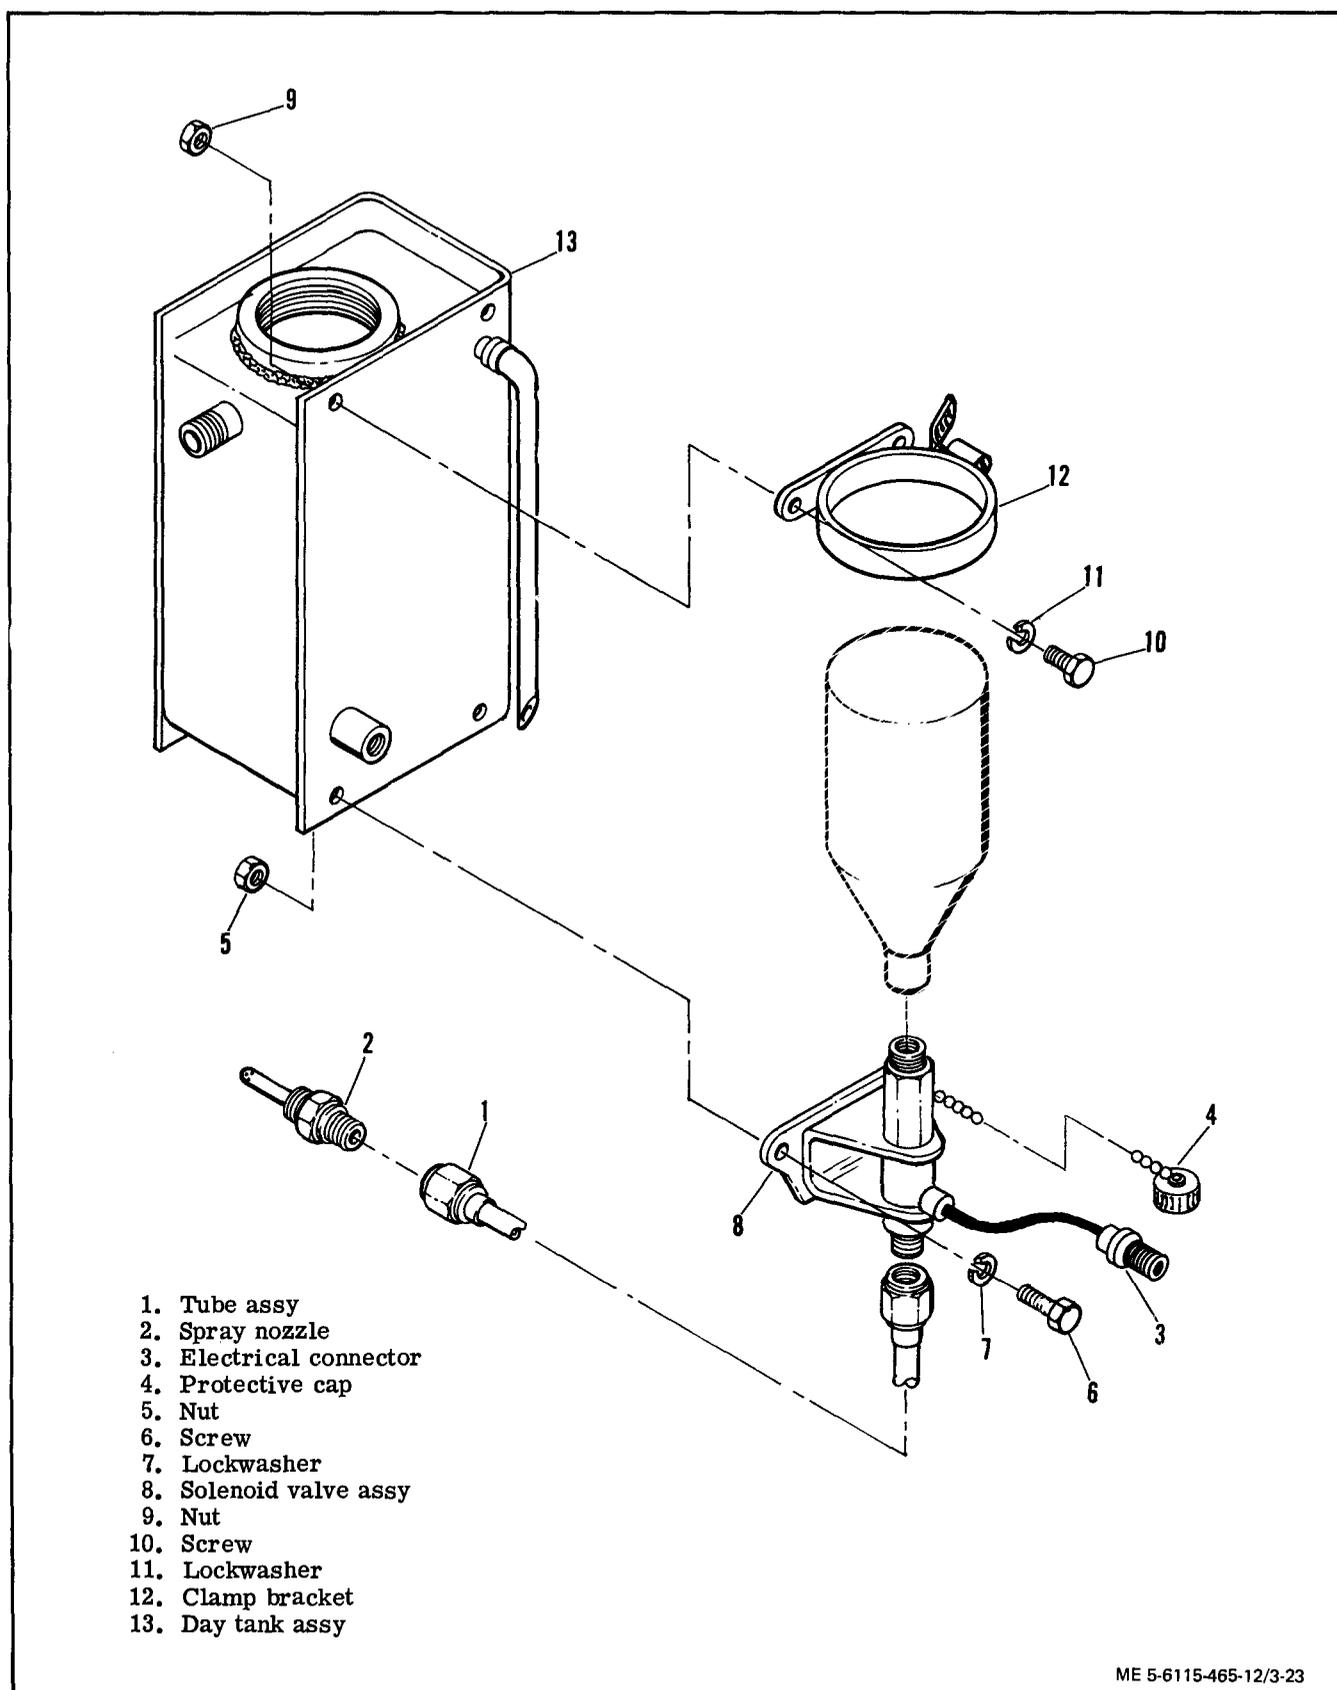

Figure 3-23. Start Aid Assembly, Removal and Installation
(1) Remove tube assembly (1, figure 3-23) and unscrew spray nozzle (2) from sir cleaner housing.
(2) Remove ether tank and install protective cap (4) on solenoid valve assembly (8).
(3) Disconnect electrical connector (3) from solenoid valve assembly.
(4) Remove nuts (5), screws (6), and lock-washers (7) to remove solenoid valve assembly (8).